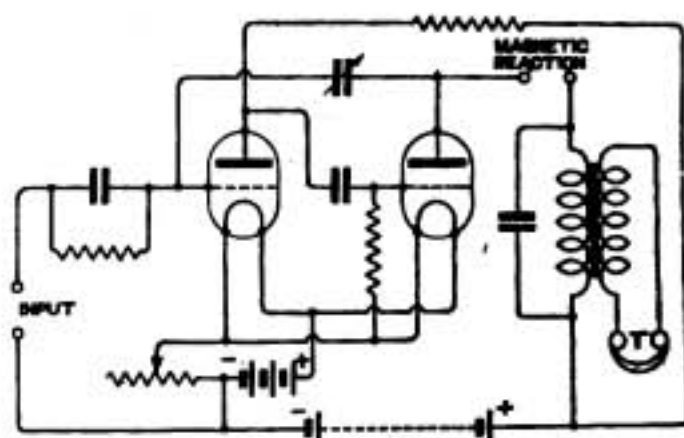
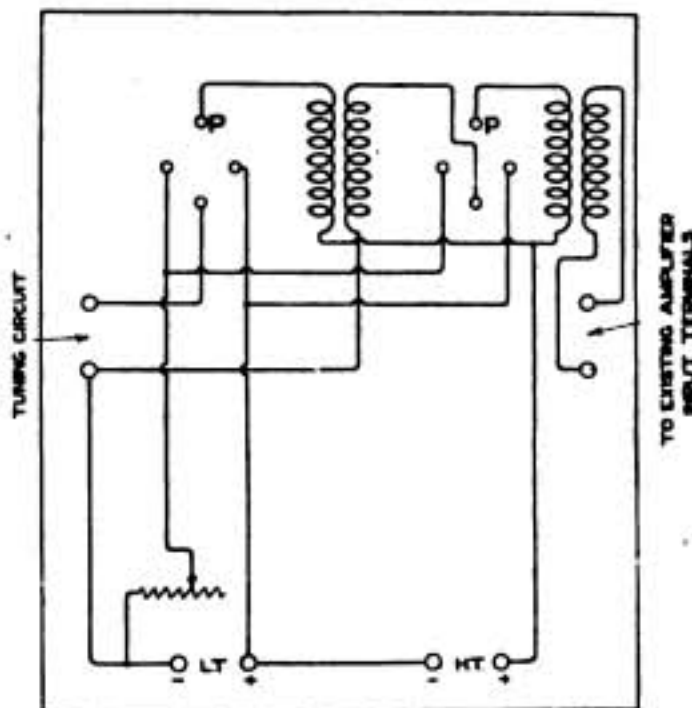

Fig. 3.
Fig. 4.
(1) You will be well advised to make a single-valve reaction set, for which the following additional apparatus will be required: reaction coil (to slide in and out of A.T.I.), one valve, 6-volt battery, filament resistance (5 ohms), H.T. battery (30 to 50 volts), grid condenser (0.0003 mfd.) and leak (2 megohms), and telephone transformer. The size of reaction coil cannot be given without knowing the size of A.T.I. (2) "Ora" or "R" valve. (3) The apparatus should be connected as shown in Fig. 3, page 90. The aerial and earth should be joined across the grid inductance, and not as shown. (4) We cannot estimate wavelength range, and therefore do not know from how far the set will receive. You will probably not hear much telephony owing to your situation.
(1) It is impossible to state definitely the best combinations of inductance values from a theoretical point of view. One might deduce that certain arrangements will give better results, but experimenting is the best guide. Generally speaking, the arrangement that provides for loosest coupling of reaction or secondary circuit is the most efficient. (2) We presume you mean the use of a separate heterodyne, the merits of which have been discussed from time to time in this journal. The advisability of adopting such an arrangement depends entirely upon the signals it is intended to receive. If separate heterodyne is used it is advisable to leave in your receiving circuit some feed-back arrangement, such as inductive or capacity reaction. Ratios between anode and secondary coils cannot be definitely stated, but as a general rule should be approximately equal. (4) Articles that appear in this journal must be taken as expressing only the opinion of the author, and we cannot undertake to criticise the merits of circuits given in replies in these columns. The height of the curve in Fig. 3, page 724, must not be regarded as a direct factor of efficiency, but more as a measure of advice in adopting circuits for particular wavelengths. The circuit is not the popular one, as you will see that tuning is effected by stepping out a portion of the coil and short circuiting it, a practice that is often adopted for tuning to short wavelengths.
(1) To make this set effective a small variable condenser should be connected across inductance, as shown in Fig. 3, page 60, April 8th issue. The telephone condenser should be 0.001 mfd. (2) You might hear Croydon telephony, but no other. If the wavelength range is suitable, ship stations and FL should be received. (3) and (4) For crystal sets high resistance 2,000 to 8,000 ohms telephones should always be used if possible. An ordinary telephone receiver with transformer would not be very efficient.
(1) Yes. (2) This is a very inefficient circuit, as the idle sections of both inductances are short circuited; no reaction coil is used, and no telephone blocking condenser. Add a reaction coil and grid to condenser and leak, as shown in Fig. 3, page 90, April 15th issue.
(1) This is rather vague. An effective capacity reaction cannot be used with the one valve only. Use a magnetic reaction connected to the terminals marked in your diagram. To add an additional valve, see Fig. 3 for connections. (2) Many of the calls are to be found in the "Year-Book of
**"DOUBLE C" (Bury)** asks (1) For single-valve diagram to utilise certain apparatus. (2) Wavelength range with existing formers. (3) What additions are necessary to increase range to 30,000 metres. (4) Maximum range for telephony.
(1) and (4) A good circuit is given in Fig. 4, page 706, February 4th issue. This shows an additional valve as note magnifier, which may be put in or out of circuit as desired. You will find the second valve very useful for telephony, as you are a considerable distance away from existing telephone station. With additional valve you should hear 2MT easily. (2) With the aerial condenser and inductance in series the maximum wavelength is 1,400 metres, and 3,000 metres with A.T.I. and A.T.C. in parallel. (3) To increase the range additional inductance in the form of slab or honeycomb coils will be required. These may now be purchased from advertisers almost as cheaply as they can be made. About 10 coils will be required to cover the range.
**"B.E.A." (Folkestone)** asks (1) For dimensions for a variometer to tune to 700 to 6,400 metres with a 0.0001 mfd. fixed condenser across it. (2) Particulars of a frame for lid of box to receive 500 to 1,500 metres with 0.0016 mfd. condenser. (3) For reaction coil for same.
(1) This is not a practical proposition, because a variometer to give such a great inductance change cannot be made. A variable condenser with tappings on plain winding is more straightforward. (2) Make a former to fit inside the lid and wind it with 40 turns of No. 26 wire. (3) The reaction coil former should be made to just fit inside the frame and should be pivoted on one end so that its position with reference to fixed coil may be varied. A suitable winding for 1,500 metres should be 60 turns of No. 30.
**"P.J.W." (Port Said)** asks (1) Which is the better circuit to use for a 3,000 C.W. metre receiver, Fig. 3 or Fig. 5, February 4th, Q. and A. column. (2) Particulars of honeycomb coils for tuning to this wavelength with a 0.0007 mfd. condenser and P.M.G. aerial. (3) Particulars of intervalve transformer for 3,000 metres.
(1) and (2) The circuit given in Fig. 4, page 32, April 8th issue, will allow either of the desired combinations to be used. (3) Any good standard transformer will do. A suitable one will be 3 ozs. of No. 44 and 6 ozs. of No. 32, wound on  $\frac{1}{2}$ " soft iron core, 3" long. (4) This is probably a set which was supplied with power from a propeller driven A.C. generator. We are sorry we have no information regarding the A.C. power required for transformer primary, and suggest that you apply to the B.T.H. Co., giving, if possible, the number of set and transformer.
(1) The capacity is 0.001 mfd., if the  $\frac{1}{16}$ " spacing refers to distance between fixed vanes. (2) Diagram of additional panel is given in diagram (Fig. 4). It is not necessary to use separate batteries for this panel, unless it is specially desired to do so.
(1) The diagram given in Fig. 4, page 32, April 1st issue, may be used for your purpose, if the grid condenser and leak are connected in grid circuit of No. 2 valve. (2) It is useful for short wavelength transformers, but makes them rather bulky. No. 40 is a better size. (3) Yes.